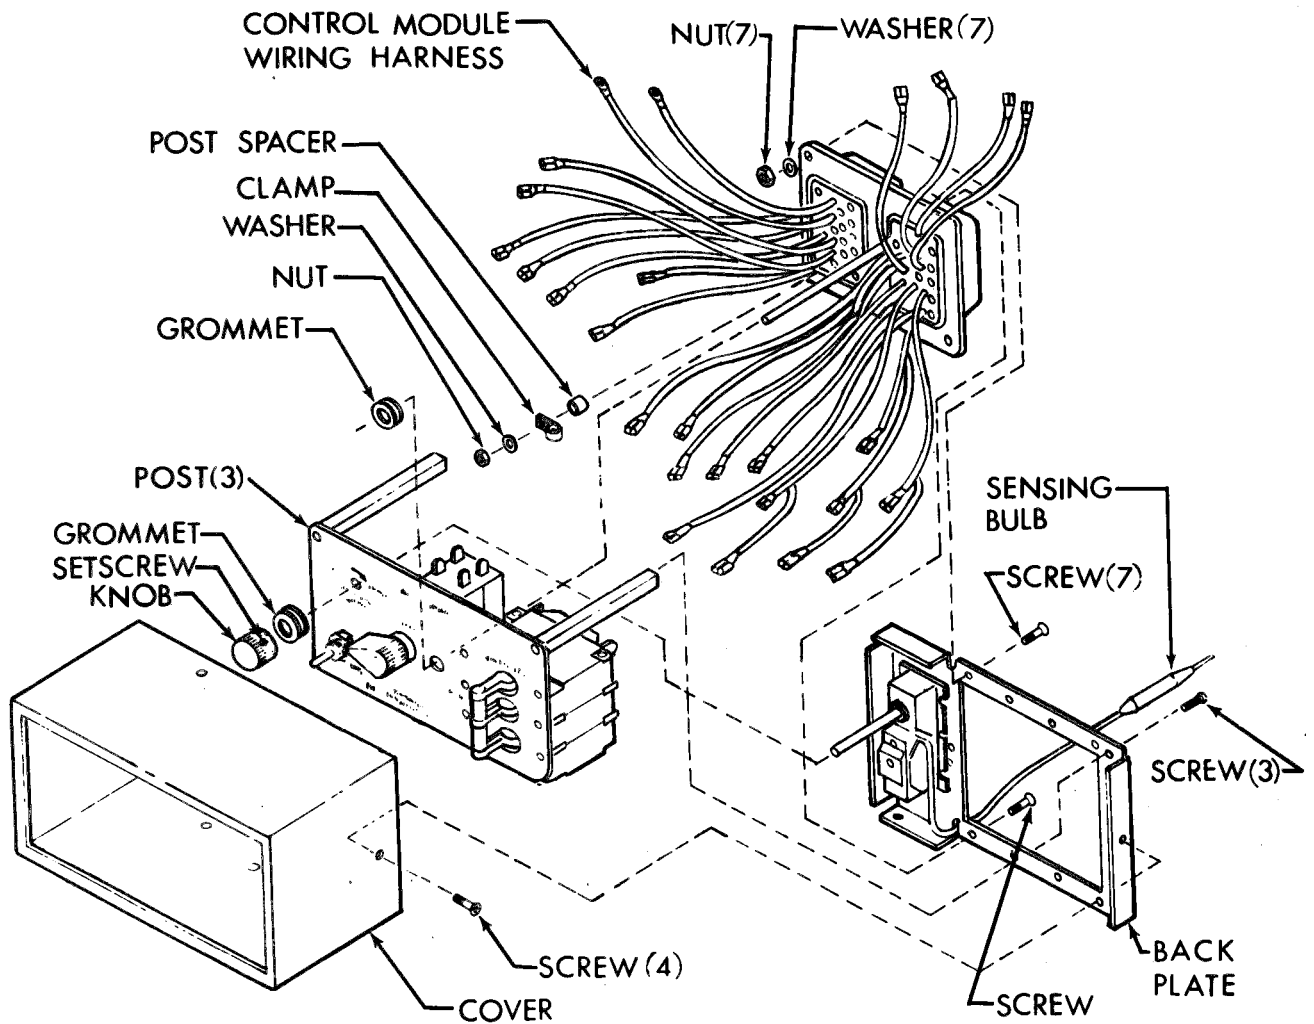

Figure 4-22. Control Module Wiring Harness
(See fig. 4-22.)
- (1) Disconnect power at power source.
- (2) See paragraph 4-21a and remove control module.
- (3) See figure 4-22 and remove four screws and pull the cover off.
- (4) Inspect connector for loose, damaged or missing pins. Replace if defective.
- (5) Check individual wires for loose solder connections, loose terminal lugs, cut or frayed insulation, cut or broken wires.